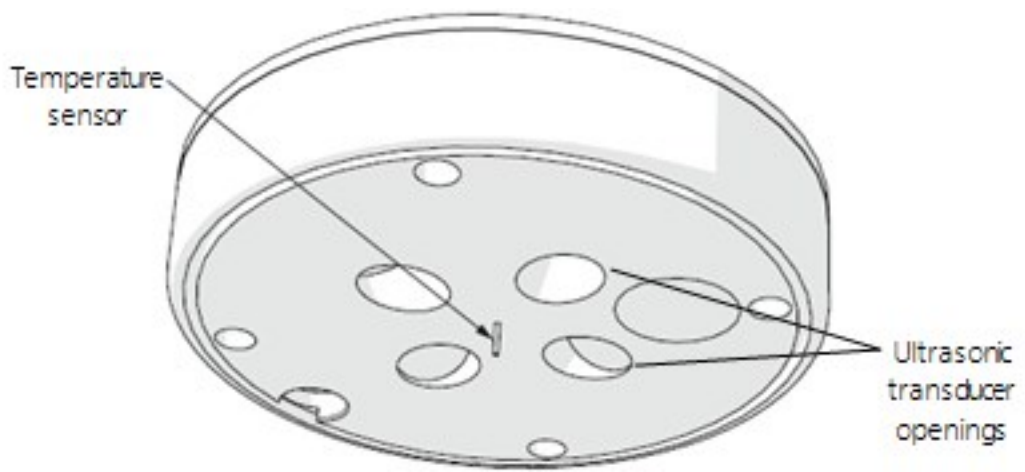

Figure 9-1. Temperature sensor and ultrasonic transducer openings
1. Remove cobwebs, leaves, bird droppings, wasp nests, or other debris from the temperature sensor (Figure 9-1 [p. 29]), ultrasonic transducer openings (Figure 9-1 [p. 29]), rain gage funnel (Figure 9-2 [p. 29]), pyranometer (Figure 9-2 [p. 29]), and sintered glass reflection plate (Figure 9-3 [p. 30]).
Gently clean the sonic transducers and do not allow water to enter the ultrasonic sensors (Figure 9-1 (p. 29)). Water may corrode the metal parts inside the sensors and ruin them.